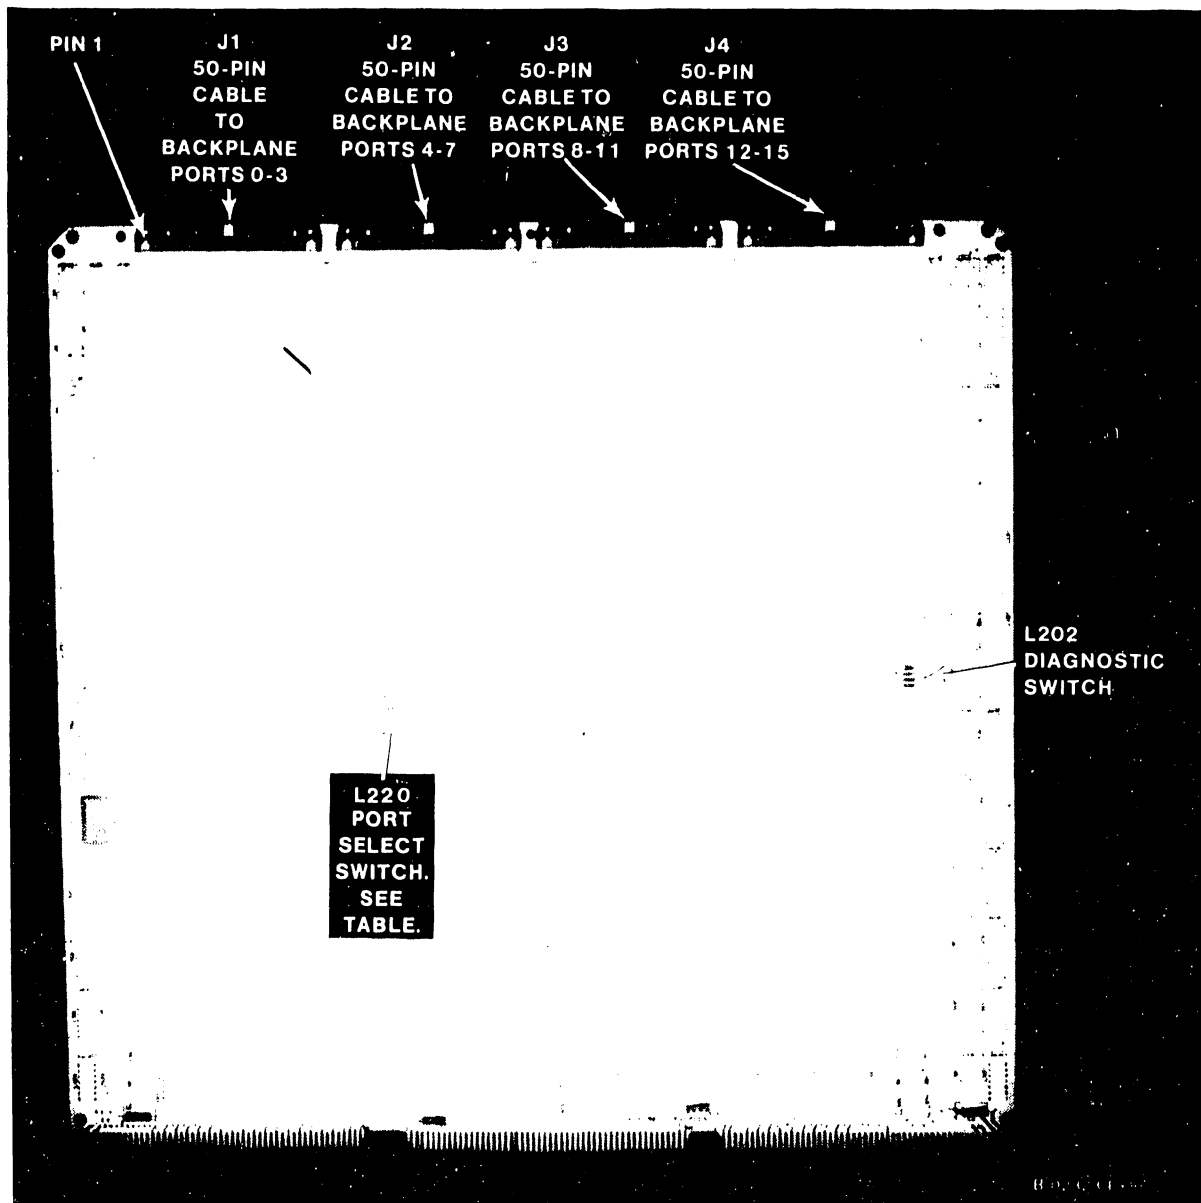

Figure 7-35. 23V86/96 Multiline TC (MLTC) IOC
2. Disconnect all cables from the top of the 23V86/96 Multiline TC IOC (figure 7-35). Note the position of all cables for later reassembly.
4. Check the 8-position port select loop back test switch at L220. (Figure 7-35, and table 7-6). For normal power-up, all switches are on.
2. For normal operation, all L202 Diagnostic switches must be as shown in figure 7-35, and all L220 switches must be Closed (on).